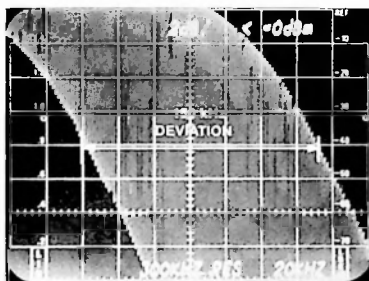

Fig. 46. Fm Deviation Measurement Using the Calibrated Span
4. Using single audio tones, the display can be expanded to show only half of the analyzer filter shape (figure 46).